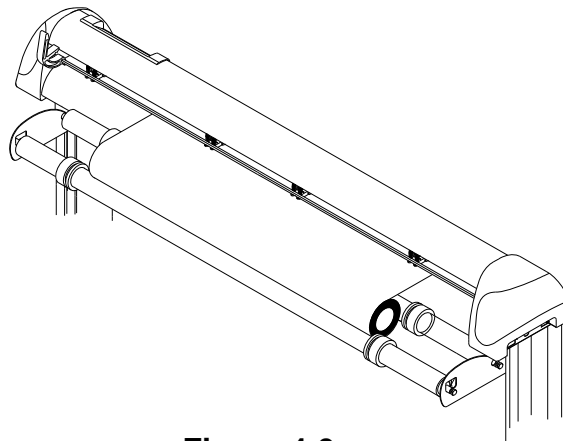

Figure 4-9
4. Then turn the roll downward to equalize tension across the media. (Figure 4-9)